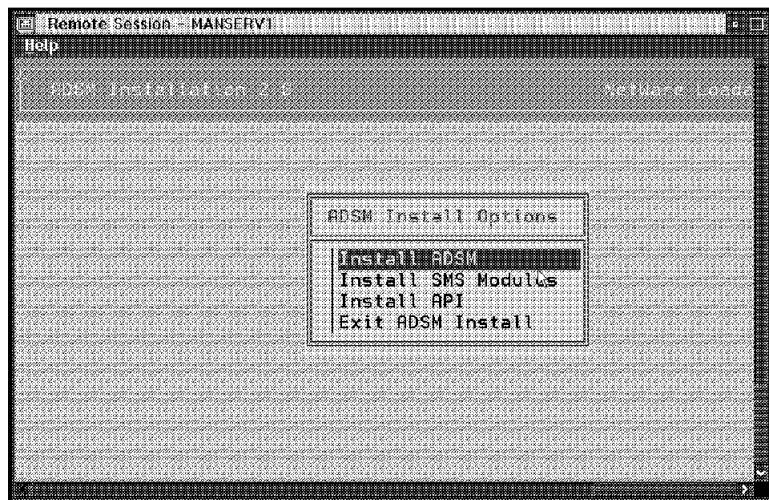

Figure 87. ADSM Client for NetWare
The installation process for the ADSM for NetWare client is more difficult than the OS/2 or Windows versions that we already worked with. Figure 87 shows the installation panel for ADSM after loading the NLM from the diskette.
- If the SMS Modules (second item to click on in Figure 87) are already installed you will not need to reinstall them. The install process will let you know.